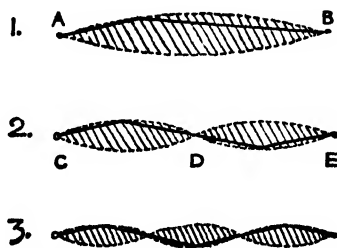

FIG. 236.—Modes of vibration of a stretched string.
The string thus at one time or another covers all the positions of the shaded portion of Fig. 236 (1). If you twang a string, you see a figure like this, which is a blurred impression of all the positions a string takes up. Now the string (the picture in Fig. 235 is made from a violin string sounding B'', which makes 995 vibrations a second)
goes through all its vibrations 995 times a second. How is it then that the string sounds not only the pure B'', but a whole series of fainter and higher notes—the overtones? The reason is that a string can vibrate in more than one way. It can go through all the positions shown in Fig. 236 (1), but it can also go through all the positions in Fig. 236 (2), or Fig. 236 (3). Now, the speed of vibration depends first on the
restoring force, which is the elastic pull of the string (this is the same, however, in whatever way the string is vibrating), and secondly, on the length and weight of the part being pulled back. Now the weight of the string A B is clearly twice that of the part C D; so C D and of course D E vibrate *twice* as fast as A and thus sound the octave. Now, a violin string vibrates in all the ways shown in Fig. 236 *at once* and, to a smaller extent, in several others as well.
three different waves the string is sending out by vibrating in the three different ways shown in Fig. 236. These three waves all combined make up the curve (A), which is the characteristic shape for a violin note. A piano note would show another and different set of humps and valleys.
FIG. 244.—Trumpet sounding *c*, *g*, *c'* (top). The air column vibrates in 2, 3 and 4 portions respectively (cf. Fig. 236). At the points *N* the air is still, and at *L*, most strongly vibrating; the distance *LN* in each case is *half* the length of the vibrating column.